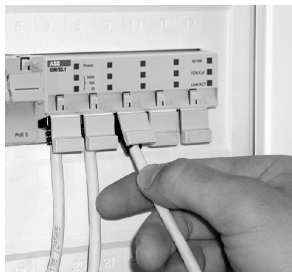

Figure 2
- 1 Plug the patch cable in the RJ45 ports on the front face and connect them with the active network components (s. fig. 2).